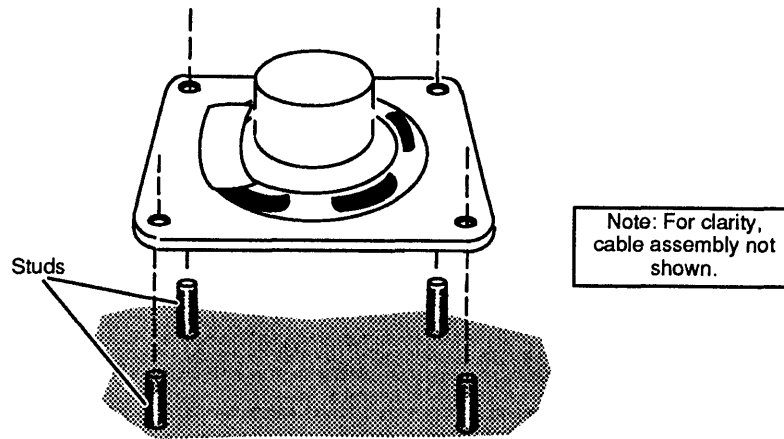

Figure 4-20 Placing the Speaker on the Tray Assembly
2. Place the speaker on the four studs, as shown in Figure 4-20.